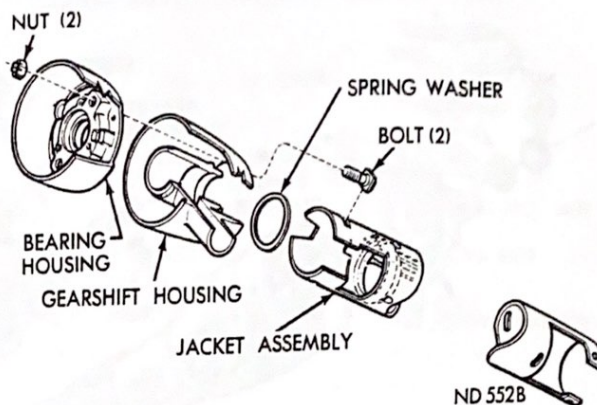
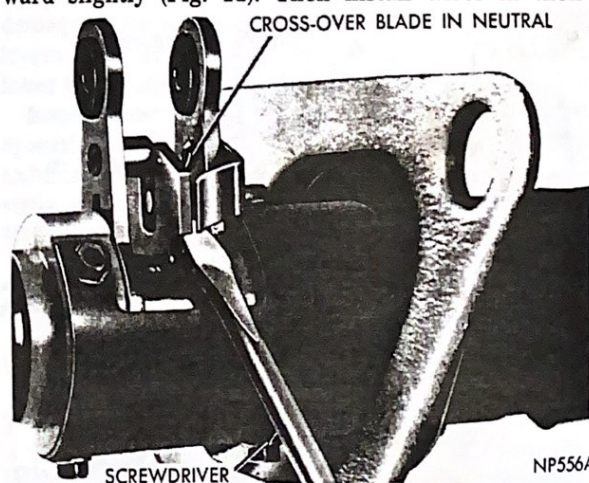

Fig. 8—Upper End of Column—Disassembled
Fig. 9—Holding Cross-Over Blade in Neutral Position
(9) Place a screw driver blade between 2nd and direct shift lever and cross-over blade so it will be held in neutral position half way between the two shift levers (Fig. 9).
(10) Position gearshift lever and spring in housing so ball end with insulator ring engages hole in shift tube key. Align and install retaining roll pin.
(11) Place insulator over column upper bearing and install assembly into bearing housing bore (Fig. 8). Use a soap solution or rubber lubricant to ease installation.